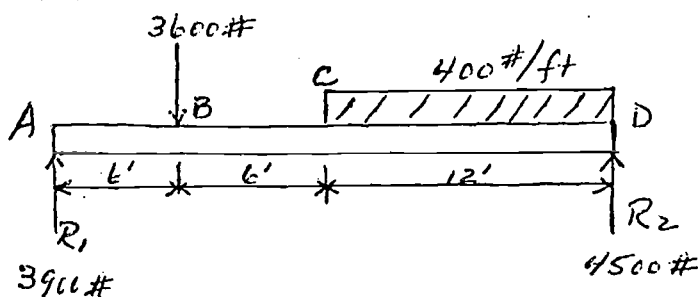

FIGURE 1
11. Draw the shear diagram for the beam of Figure 1.